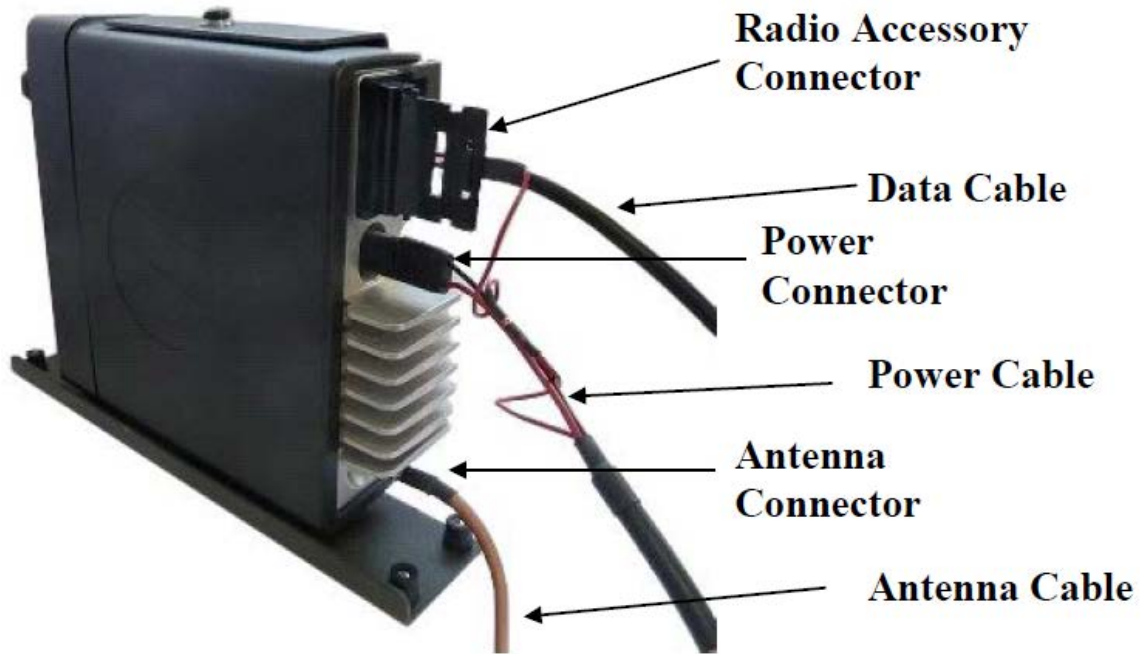

Figure 21-57 MotoTrbo Radio Cable Connections
2. Connect data cable (30013015001 for digital mode, CB000139A01 for analog mode, CB000344A01 for Connect Plus) to radio accessory connector. See Figure 21-57.